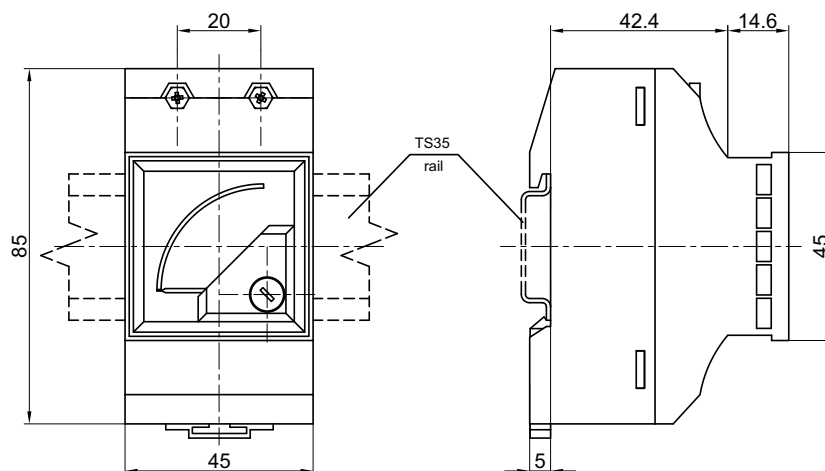

Fig. 1. External dimensions of EB16.
*) It concerns EA16 meters, for the frontal frame dimensions of EB16 meters, see Fig.1.